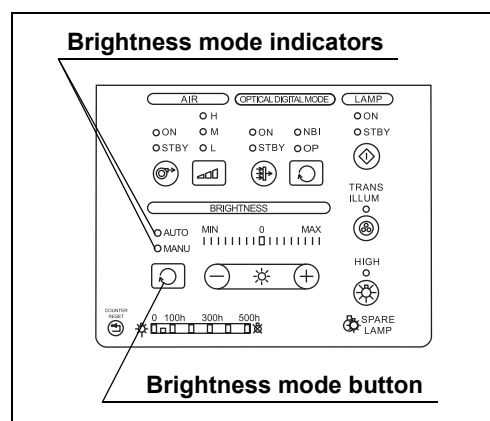

Figure 4.7
- 2 Press the brightness mode button on the control panel and confirm that each press switches the brightness mode indicators between “AUTO” and “MANU”. (See Figure 4.7)